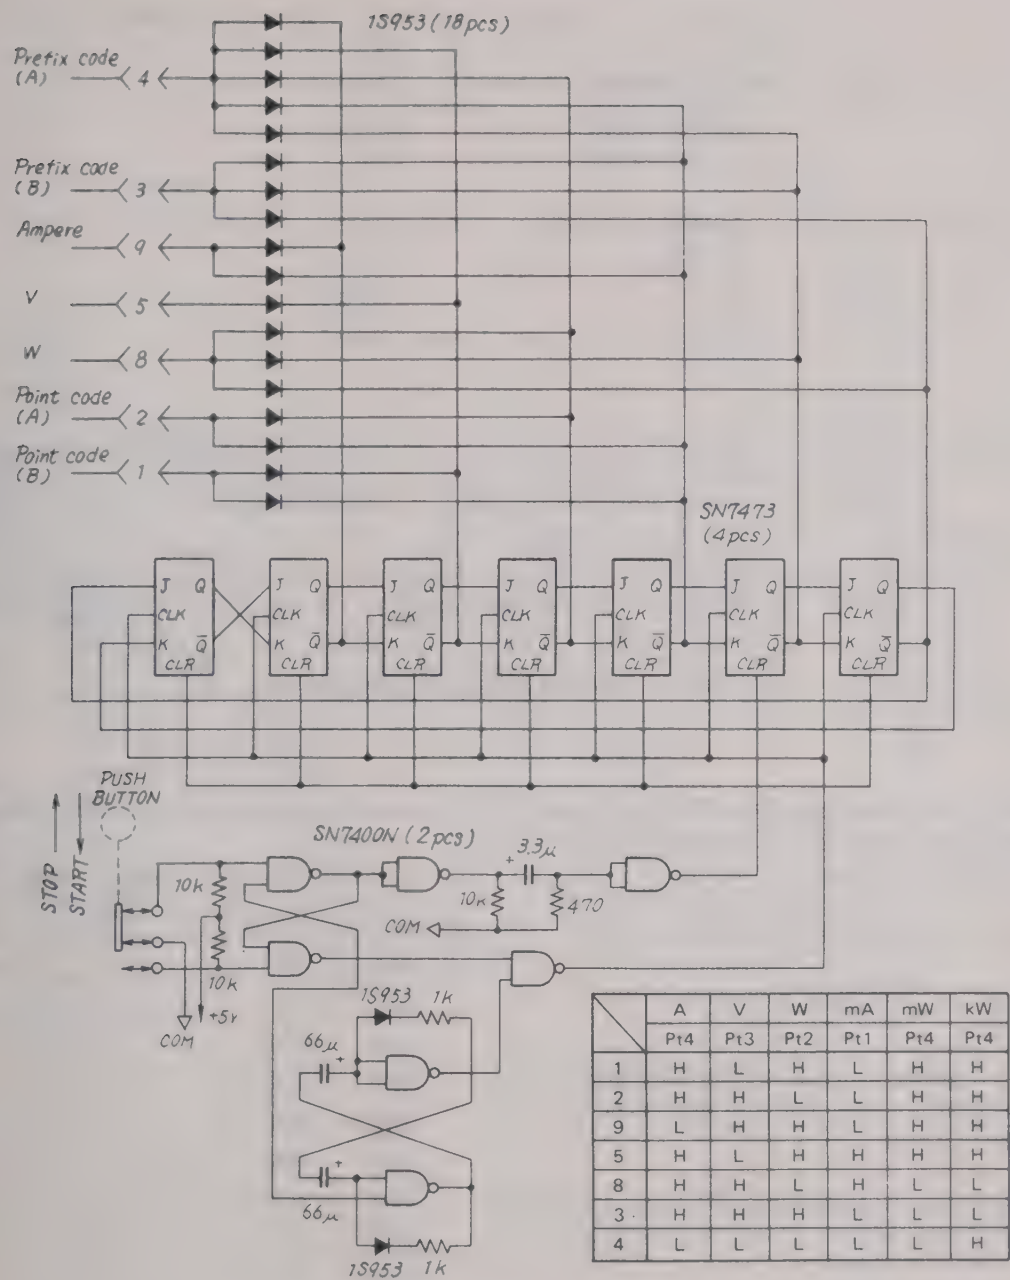

Fig. 2-7 Circuit Diagram of Test Card (2)
Test card (2): For point and unit check, typically illustrated in Fig. 2-7